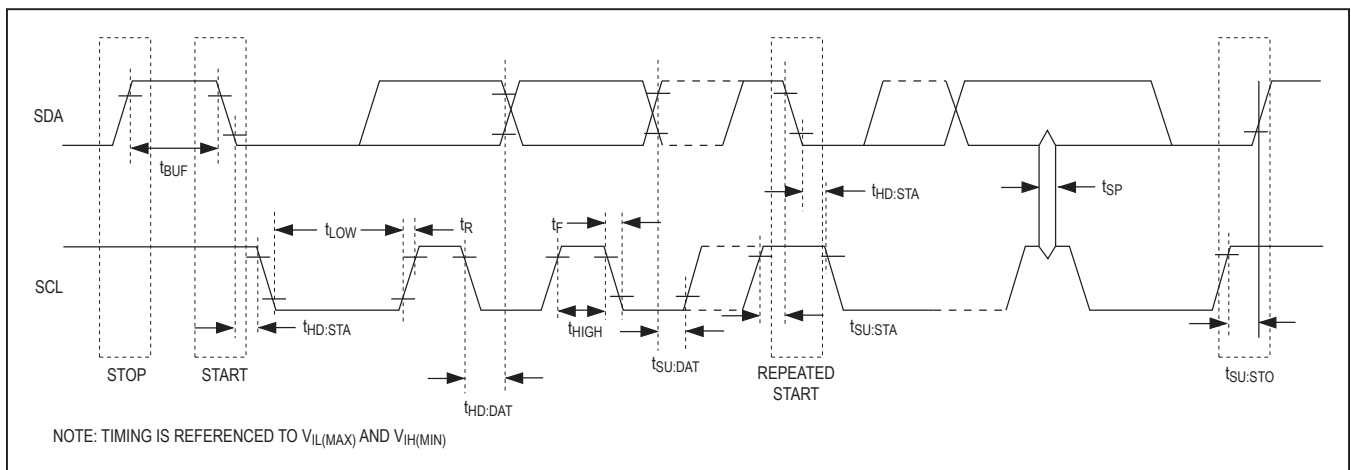

Figure 2. I2C Timing Diagram
**AC Electrical Characteristics (See Figure 2)**(VCC = +2.7V to +5.5V; TA = -40°C to +85°C, unless otherwise noted. Timing referenced to VIL(MAX) and VIH(MIN).)
**Bit Write:** Transitions of SDA must occur during the low state of SCL. The data on SDA must remain valid and unchanged during the entire high pulse of SCL plus the setup and hold time requirements (see Figure 2). Data is shifted into the device during the rising edge of the SCL.
**Bit Read:** At the end a write operation, the master must release the SDA bus line for the proper amount of setup time before the next rising edge of SCL during a bit read (see Figure 2). The device shifts out each bit of data on SDA at the falling edge of the previous SCL pulse and the data bit is valid at the rising edge of the current SCL pulse. Remember that the master generates all SCL clock pulses including when it is reading bits from the slave.
**Acknowledgement (ACK and NACK):** An acknowledgement (ACK) or not acknowledge (NACK) is always the 9th bit transmitted during a byte transfer. The device receiving data (the master during a read or the slave during a write operation) performs an ACK by transmitting a zero during the 9th bit. A device performs a NACK by transmitting a one during the 9th bit. Timing (Figure 2) for the ACK and NACK is identical to all other bit writes. An ACK is the acknowledgement that the device is properly receiving data. A NACK is used to terminate a read sequence or as an indication that the device is not receiving data.